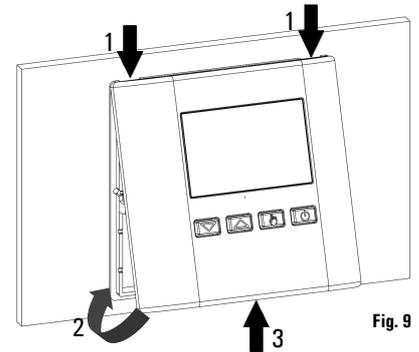

Fig. 9
- Close the upper side of the cover while, at the same time, slightly pressing with a finger the plastic tooth on the bottom side of the base making it lean towards the inner side of the thermostat (see the arrow in Fig. 9). Complete the rotation of the cover until the plastic tooth on the base snaps into position.